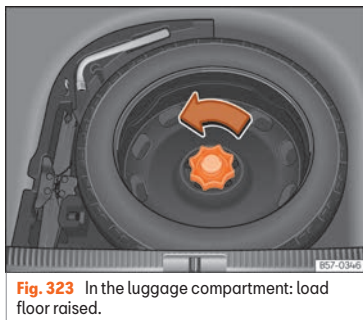

Fig. 323 In the luggage compartment: load floor raised.
- Turn the thumb wheel anti-clockwise »» Fig. 323.
- Turn the thumb wheel anticlockwise »» Fig. 323¹⁾.